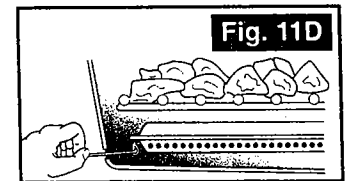

Fig. 11D
2. Place an ignited lighter or lit match through the lighting hole, approx. 1/2" (1.25 cm) from burner. (See Figure 11D)